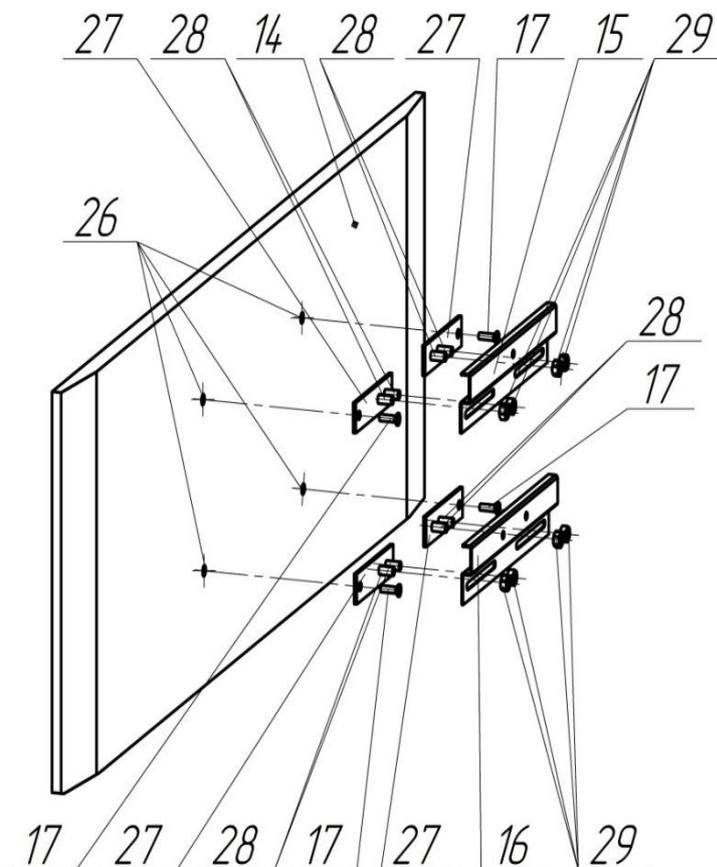

Fig.2
Step 2. Attach the traverse **15** and **16** to the rear of the TV. For this purpose it is necessary to put the TV **14** by screen down on a flat, soft surface. On the mounting holes **26** (in the rear wall of TV) to impose an upper traverse **15** (with one hole) and the lower traverse **16** (with two holes) and fasten them with screws **17** the available in the set. In this case use the screws that are suitable for threads of this TV. If the distance between holes **26** TV more than the slots allow of traverse **15** and **16**, are used the extenders **27** as shown in **Fig. 2**. Instead of traverses to the holes **26** are mounted extenders **27**, and to them - traverses. For this purpose, the studs **28** are inserted into the grooves of the traverse **15** and **16** and fixed by nuts **29**.